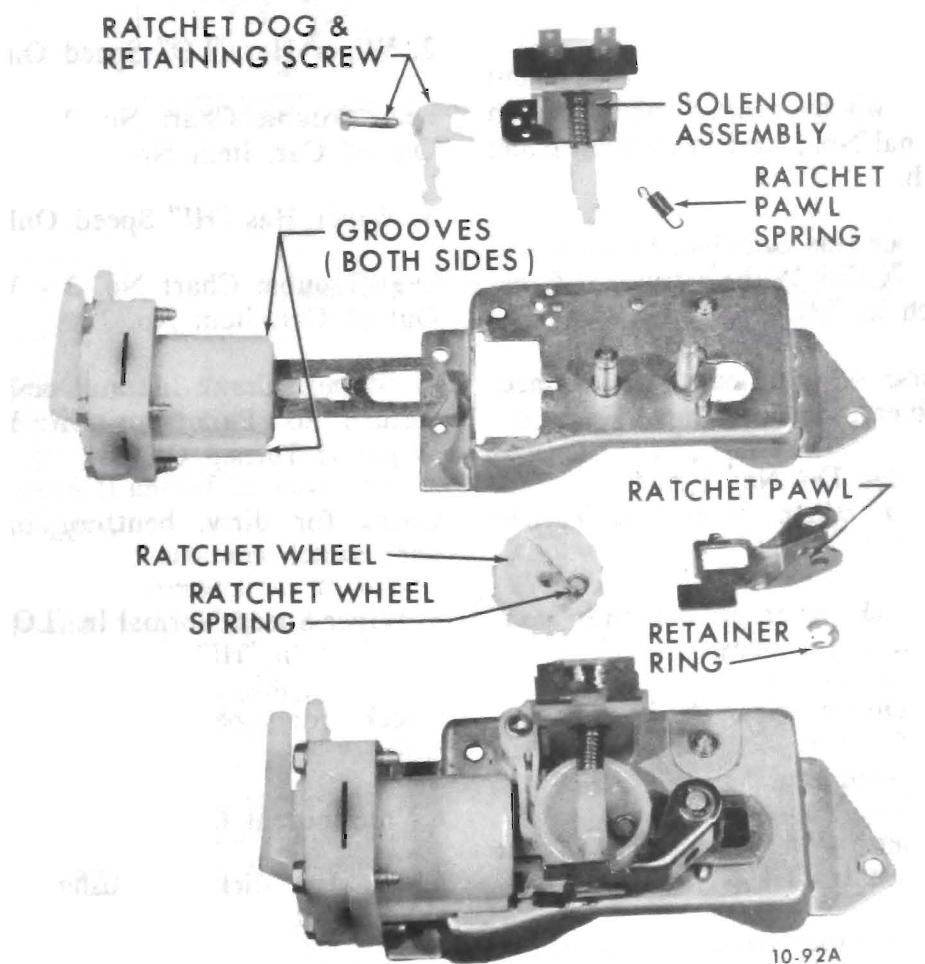

Figure 10-16 - Washer Pump - Exploded View
10. Operate wiper motor to park position and install crank arm as shown in figure 10-16. CLAMP CRANK ARM IN A VISE and tighten retaining nut to 80 lb. in.
1. Remove the ratchet dog retaining screw. Hold the spring loaded solenoid plunger in position and carefully lift the solenoid assembly and ratchet dog off the frame of the pump. See figure 10-16.